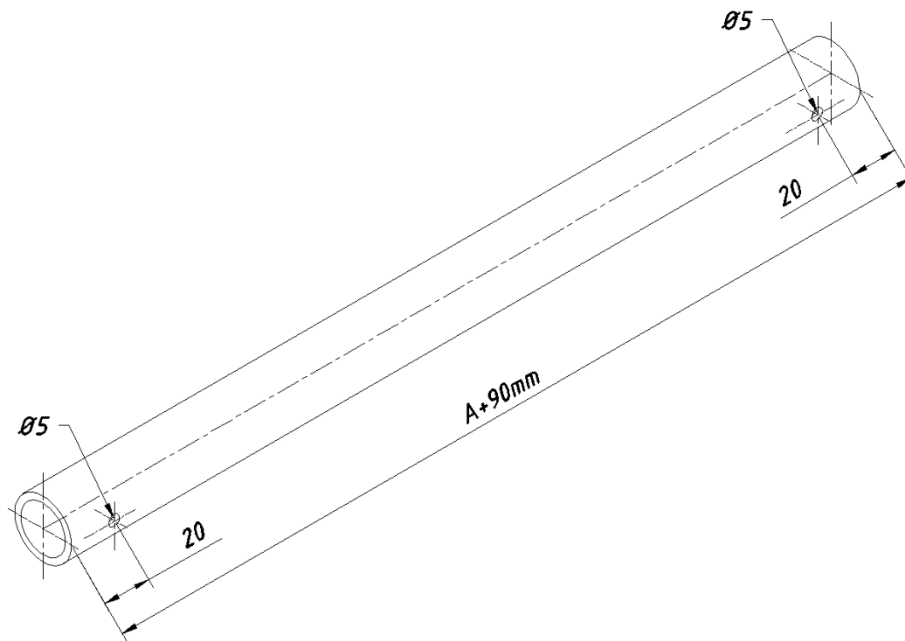

FIGURE 6
- 2- Cut a piece 90 mm longer than the measured distance A using the tube described above. (Figure 6)
- 3- Drill only the single wall thickness of the tube with a $\text{Ø}5$ drill from 15mm from both ends of the tube. Do not drill the tube completely. These half-holes will function as a guide hole when drilling the safety gear lever shaft. Try to drill holes in the same axis as possible along the tube's axis. (Figure 6)